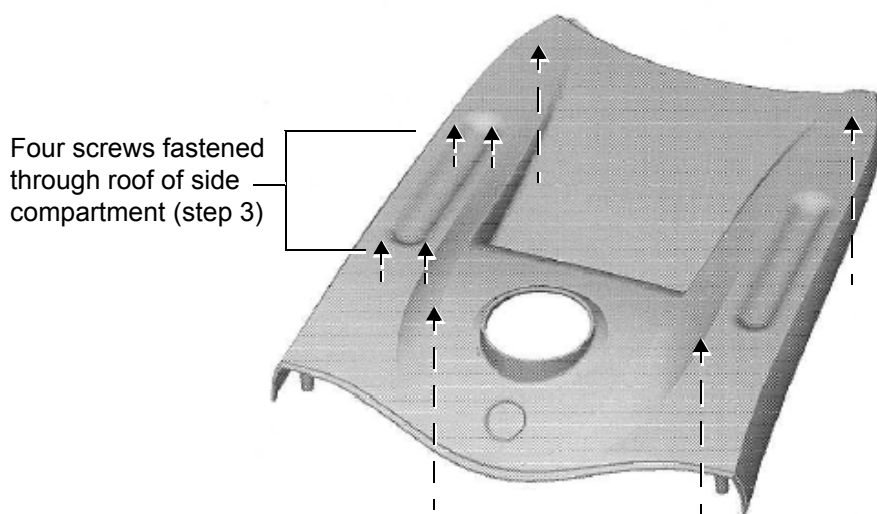

Figure 8-16 Location of Screws on the Control Console Upper (Rear) Cover
- 3) Working from the *left* side of the Vivid™ 4 unit, remove the 4 screws securing the rectangular cover in the roof of the side compartment in position; remove the cover (see Figure 8-16 below).
- 6) Working from underneath the control console, remove the 4 screws (2 from each side) that fasten the upper rear cover in place (refer to Figure 8-16 below).
- 3) Return and fasten the 4 screws (2 on each side as shown in Figure 8-16) to secure the upper rear cover in place.
- 6) Working from the *left* side of the Vivid™ 4 unit, return the rectangular cover to the roof of the side compartment and fasten in position with the 4 screws (previously removed) - refer to Figure 8-16.